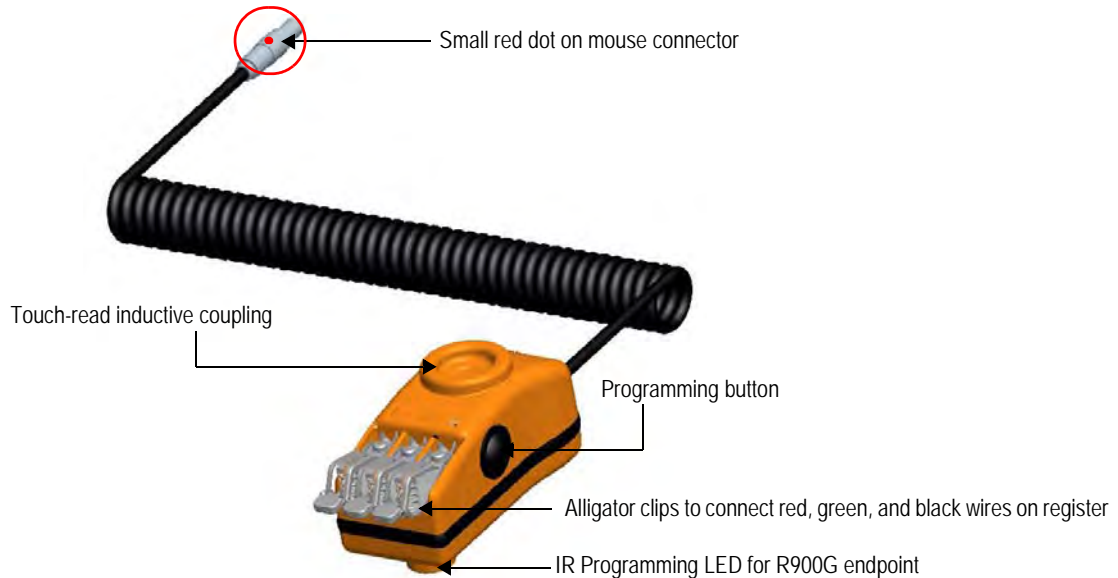

Figure 8.1 Field Programmer Mouse for the CE5320
- 1 Locate the small red dot at the end of the mouse connector cable. See Figure 8.1.